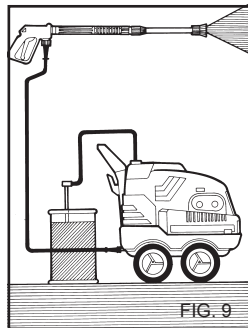

FIG. 9
- 3) After using with detergent, flush out the intake circuit; place the detergent suction hose (fig. 9) in a tank of clean water and let the pump run for 1 minute with the dosing tap turned fully on and the lance in detergent delivery condition.
- 4) After using with detergent, flush out the intake circuit; place the detergent suction hose (fig. 9) in a tank of clean water and let the pump run for 1 minute with the dosing tap turned fully on